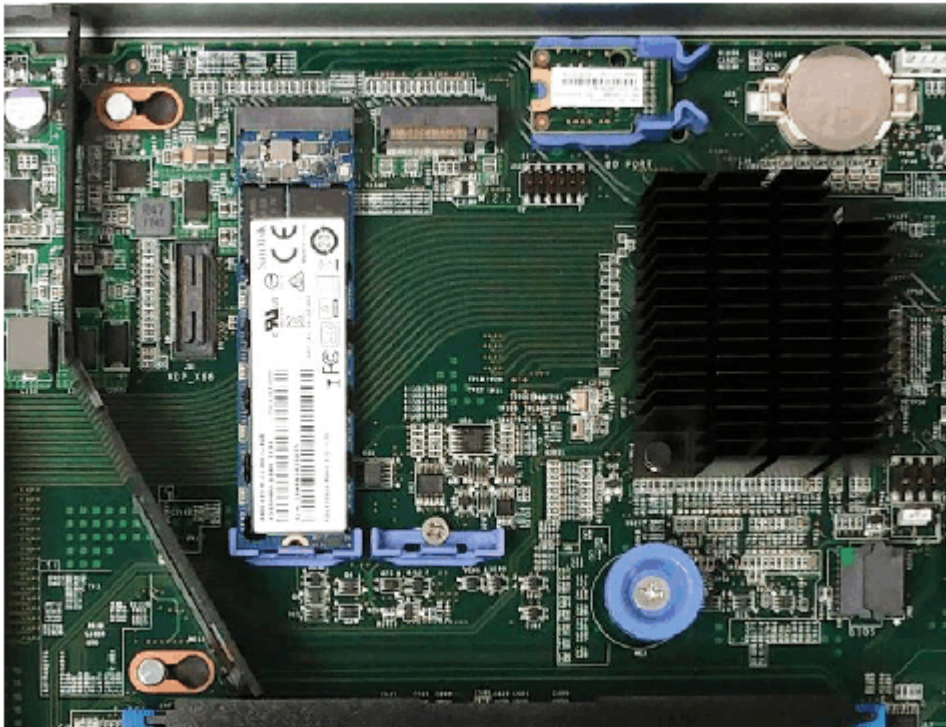

Figure 51. Locating the TPM
6. Locate the TPM, which is between the boot drive and CMOS battery, as shown in Figure 51 on page 87.